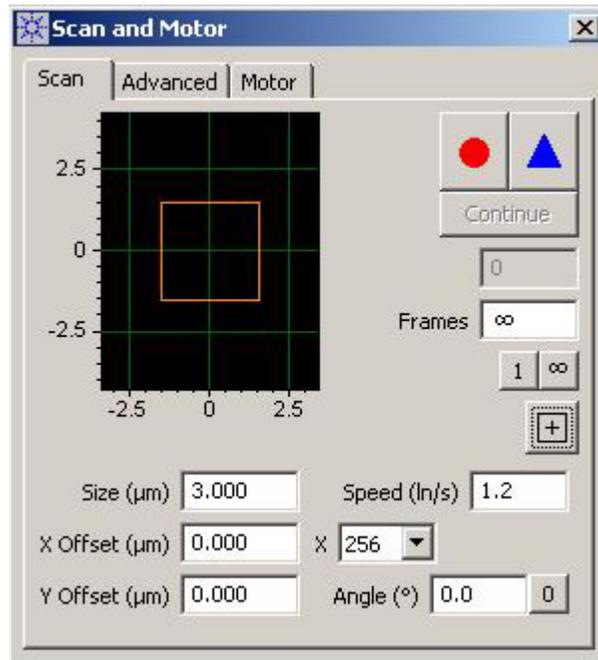

Figure 67 Scan and Motor window: Scan tab
- 15 In the **Scan and Motor** window, select the **Scan** tab (Figure 67).
- 17 Select a resolution from the **X** list. **256** is a good starting value, providing ~11nm/pixel resolution for the 3 micron scan size selected in Figure 67.
Depending on the **Frames** setting in the **Scan and Motor** window, the system will either scan once and stop, or it will scan infinitely, overwriting the previous scan each time. You can also choose to scan for a specific number of frames. To stop the scan, click the red **STOP** circle that will replace the Up or Down arrow when you start a scan (Figure 67 on page 82).